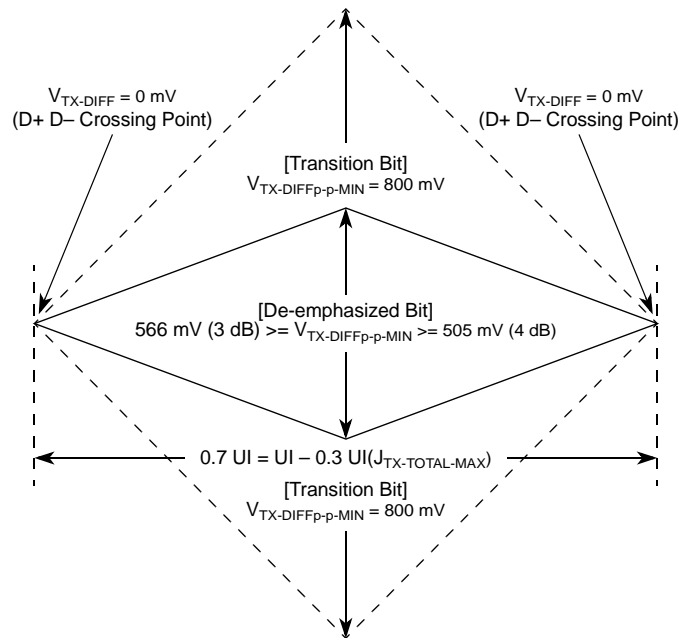
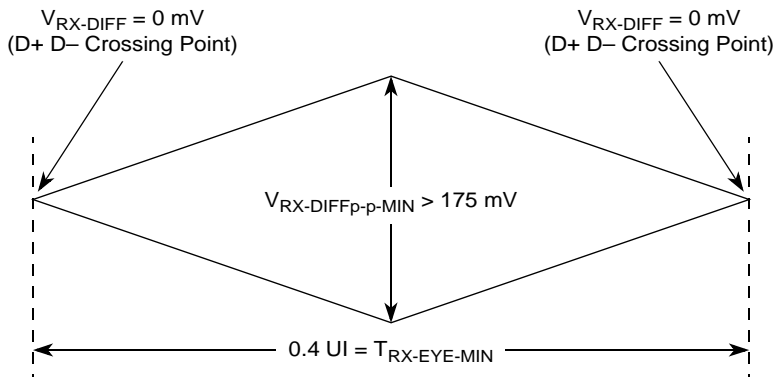
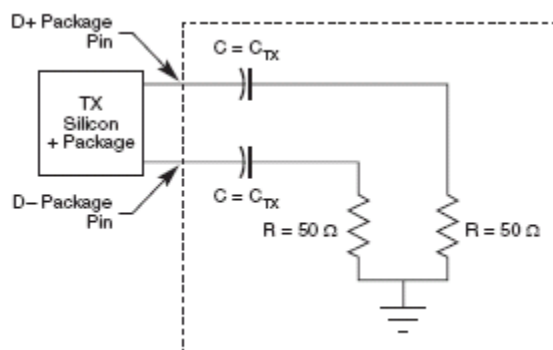

Figure 27. Minimum Transmitter Timing and Voltage Output Compliance Specifications
Figure 28. Minimum Receiver Eye Timing and Voltage Compliance Specification
Figure 29. Compliance Test/Measurement Load
2. Specified at the measurement point into a timing and voltage compliance test load as shown in Figure 29 and measured over any 250 consecutive TX UIs. (Also refer to the transmitter compliance eye diagram shown in Figure 27.)
4. The transmitter input impedance shall result in a differential return loss greater than or equal to 12 dB and a common mode return loss greater than or equal to 6 dB over a frequency range of 50 MHz to 1.25 GHz. This input impedance requirement applies to all valid input levels. The reference impedance for return loss measurements is 50 Ω to ground for both the D+ and D– line (that is, as measured by a vector network analyzer with 50- Ω probes, see Figure 29). Note that the series capacitors, C_{TX} , is optional for the return loss measurement.
5. Measured between 20%–80% at transmitter package pins into a test load as shown in Figure 29 for both V_{TX-D+} and V_{TX-D-} .
The TX eye diagram in Figure 27 is specified using the passive compliance/test measurement load (Figure 29) in place of any real PCI Express interconnect + RX component. There are two eye diagrams that must be met for the transmitter. Both diagrams must be aligned in time using the jitter median to locate the center of the eye diagram. The different eye diagrams differ in voltage depending on whether it is a transition bit or a de-emphasized bit. The exact reduced voltage level of the de-emphasized bit is always relative to the transition bit.
2. Specified at the measurement point and measured over any 250 consecutive UIs. The test load in Figure 29 should be used as the RX device when taking measurements (also refer to the receiver compliance eye diagram shown in Figure 28). If the clocks to the RX and TX are not derived from the same reference clock, the TX UI recovered from 3500 consecutive UI must be used as a reference for the eye diagram.
4. The receiver input impedance shall result in a differential return loss greater than or equal to 15 dB with the D+ line biased to 300 mV and the D– line biased to –300 mV and a common mode return loss greater than or equal to 6 dB (no bias required) over a frequency range of 50 MHz to 1.25 GHz. This input impedance requirement applies to all valid input levels. The reference impedance for return loss measurements for is 50 Ω to ground for both the D+ and D– line (that is, as measured by a vector network analyzer with 50- Ω probes, see Figure 29). Note that the series capacitors, C_{TX} , is optional for the return loss measurement.
The RX eye diagram in Figure 28 is specified using the passive compliance/test measurement load (Figure 29) in place of any real PCI Express RX component. In general, the minimum receiver eye diagram measured with the compliance/test measurement load (Figure 29) is larger than the minimum receiver eye diagram measured over a range of systems at the input receiver of any real PCI Express component. The degraded eye diagram at the input Receiver is due to traces internal to the package as well as silicon parasitic characteristics which cause the real PCI Express component to vary in impedance from the compliance/test measurement load. The input receiver eye diagram is implementation specific and is not specified. RX component designer should provide additional margin to adequately compensate for the degraded minimum Receiver eye diagram (shown in Figure 28) expected at the input receiver based on an adequate combination of system simulations and the return loss measured looking into the RX package and silicon. The RX eye diagram must be aligned in time using the jitter median to locate the center of the eye diagram.
The reference impedance for return loss measurements is $50\ \Omega$ to ground for both the D+ and D- line (that is, as measured by a Vector Network Analyzer with $50\ \Omega$ probes—see Figure 29). Note that the series capacitors, $C_{PEACCTX}$, are optional for the return loss measurement.
The AC timing and voltage parameters must be verified at the measurement point, as specified within 0.2 inches of the package pins, into a test/measurement load shown in Figure 29.